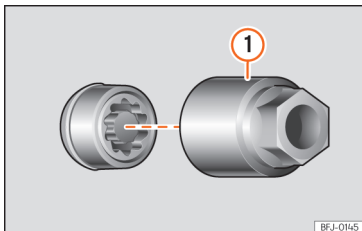

Fig. 222 Anti-theft wheel bolt with cap and adapter.
- Insert the special adapter »» Fig. 222 ① [vehicle tools »» page 286] onto the anti-theft wheel bolt and push it on as far as it will go.